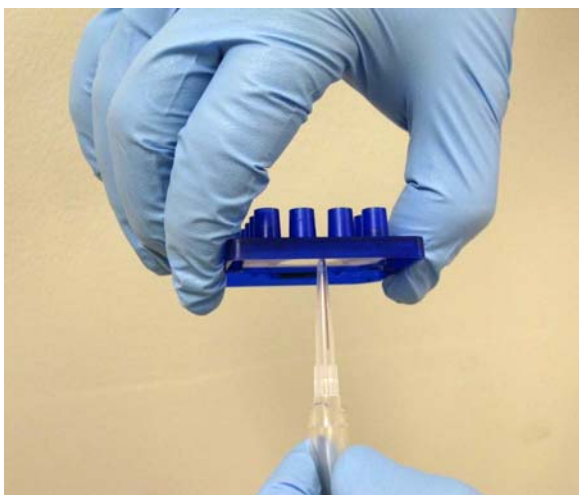

Figure 18. Removing an air bubble or clog by suctioning the sipper with a vacuum line.
- Suction the sipper with a vacuum line, as shown in Figure 18, until droplets of fluid flow out from the sipper. When suctioning the sipper, be careful not to bend or break the sipper. To facilitate this, cut the end of the pipette tip attached to the vacuum line to widen the mouth.